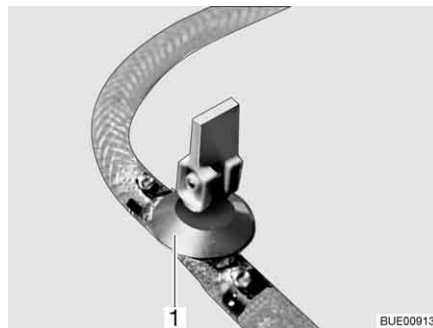
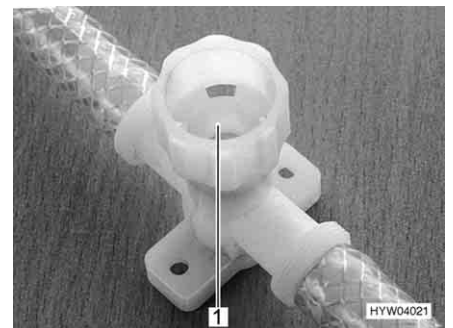

Fig. 235 Drain cock (with rocking lever)
Fig. 236 Drain cock (with twist cap)
- Open all drain cocks. To do this, position the drain cock's rocking lever (Fig. 235,1) vertically or turn the drain cock's cap (Fig. 236,1) in an anti-clockwise direction.